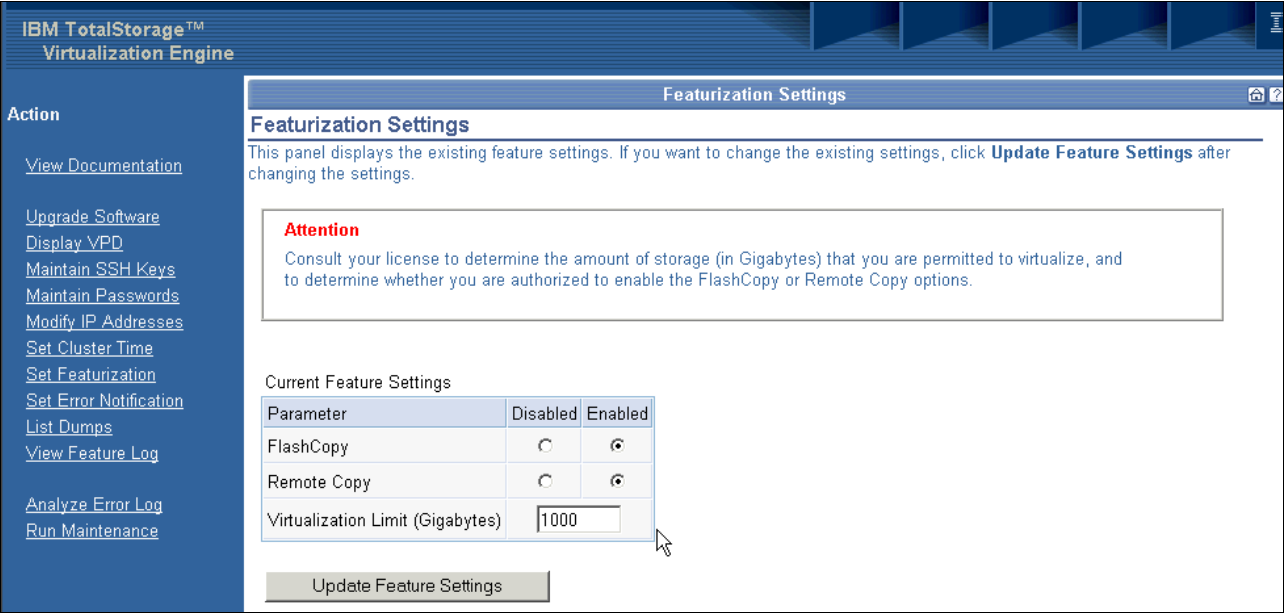

Figure 10-8 Checking that the FlashCopy feature is enabled
3. In the panel on the right, under Current Feature Settings, verify the feature settings for FlashCopy. As shown in Figure 10-8, the setting indicates *Enabled*.